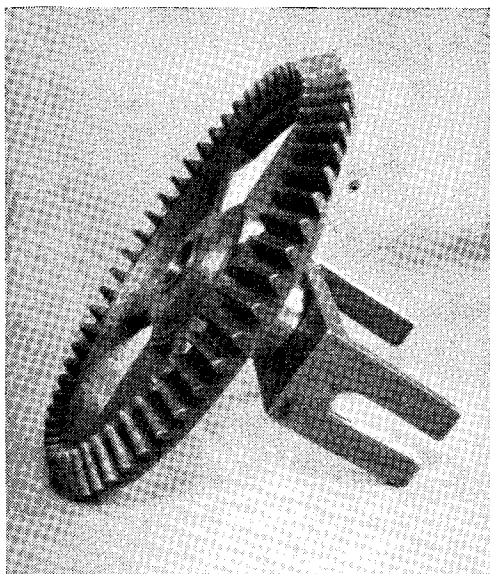

Fig. 7. A 56-tooth G.M. mitre wheel, 4 in. dia.
Fig. 7 is a 4 in. G.M. mitre wheel of 56 teeth, which had lost its pair. To replace the latter and avoid work of making pattern, turning, boring and bevel-tooth cutting, the pair was cast from it, stopping off the double-forked driver. After dressing the teeth, which tended to bind, due to shrinkage, on their sides only, the problem of chucking it to the bore and turning the solid boss was presented. This is how it was done. Fig. 8 is almost explanatory, Fig. 9 shows the wood chuck mounted on lathe in course of preparation to take it, and Fig. 10 shows it clamped to setting as after the boss was turned and bored. The diameter (A) across